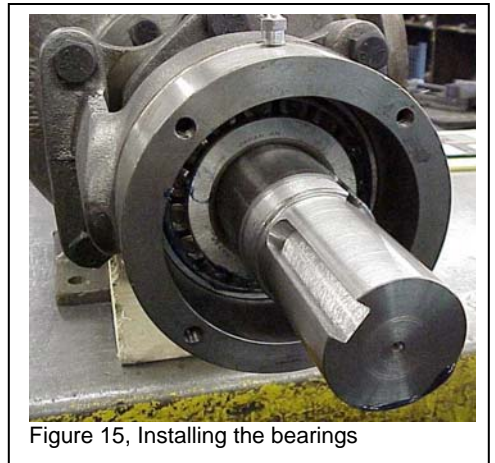

Figure 15, Installing the bearings
15. Push the bearing cones on the shaft and push up to the bearing spacer. Figure 15, page 7